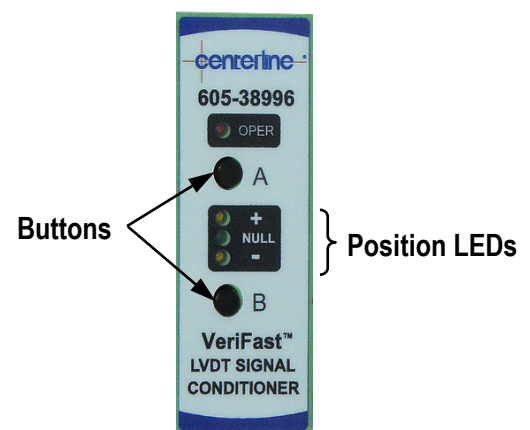

Figure 8 – LVDT Sensor Display and Operating Elements
Note: Calibration mode can be cancelled at any time by pressing the buttons 'A' and 'B' (see Figure 8 below) simultaneously for 3 seconds.
2. After system power-up, three (3) minutes of warm up time is recommended.
3. Enter the Calibration Mode by pressing both the 'A' and 'B' buttons (see Figure 8) until the OPER LED will begin blinking (3 seconds minimum).
Note: Calibration mode can be cancelled at any time by pressing the buttons 'A' and 'B' (see Figure 8 above) simultaneously for 3 seconds.
2. Ensure that the unit is warmed up for at least three (3) minutes (see step 2 in the previous section).